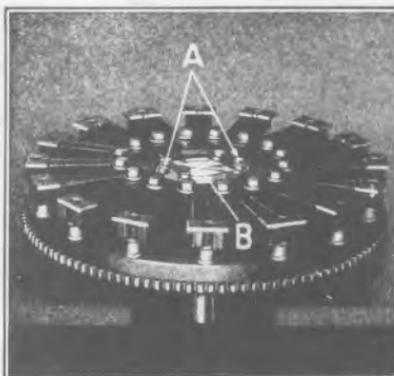

Fig. 200
- 302 Position gear shaft on flywheel, making sure that dowel pins in flywheel enter dowel pin holes in flange on shaft (See "A" Fig. 200). The shaft is then seated in flywheel by tapping it into place with a copper or lead hammer. The shaft is held in position while drums and gears are assembled by the four flywheel cap screws which are run down through gear shaft flange into flywheel. If a fixture for holding the transmission similar to the one shown in Fig. 194 is not used, it is necessary to place spacer washers approximately  $\frac{1}{2}$ " thick over ends of flywheel cap screws before inserting the screws in flywheel (See "B" Fig. 200). This prevents the screws protruding through the inside of the flywheel and coming in contact with the triple gears before crankshaft is connected to flywheel.